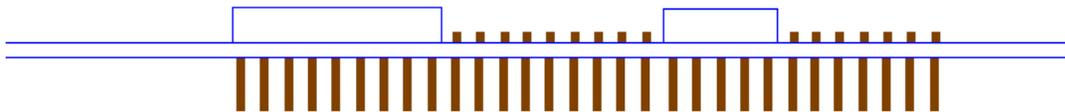

Figure 68 Stacked w/Signal Stealing Expansion Connector
**Figure 68** is the connector configuration for stackable capes that does not provide all of the signals upwards for use by other boards. This is useful if there is an expectation that other boards could interfere with the operation of your board by exposing those signals for expansion. This configuration consists of a combination of the stacking and non-stacking style connectors.